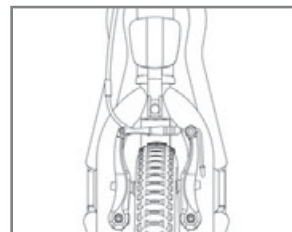

Fig. 4. Clipping brake clutches
5. Bind the brake clutches in a reverse way compared to p. 3. Fig. 4.